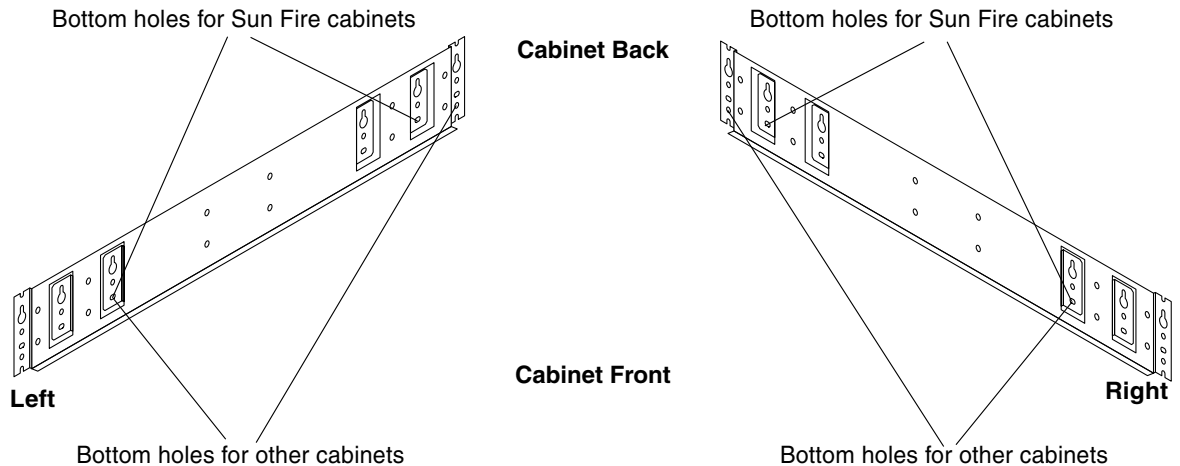

FIGURE 5 Bottom Holes for Securing the Mounting Bracket to the Cabinet
Insert the screws through the mounting bracket according to the placement guidelines in FIGURE 5. Put the screws through the holes in the mounting brackets into the designated numbered holes in the rails (use the smaller number in the “Mounting Brackets to Cabinet” column).
- In the Sun StorEdge expansion cabinet example, you would insert a screw through each mounting bracket on both sides of the cabinet using the bottom holes indicated by “Bottom holes for other cabinets” in FIGURE 5. The screws would connect through the brackets into the holes numbered 8 in the mounting rails.